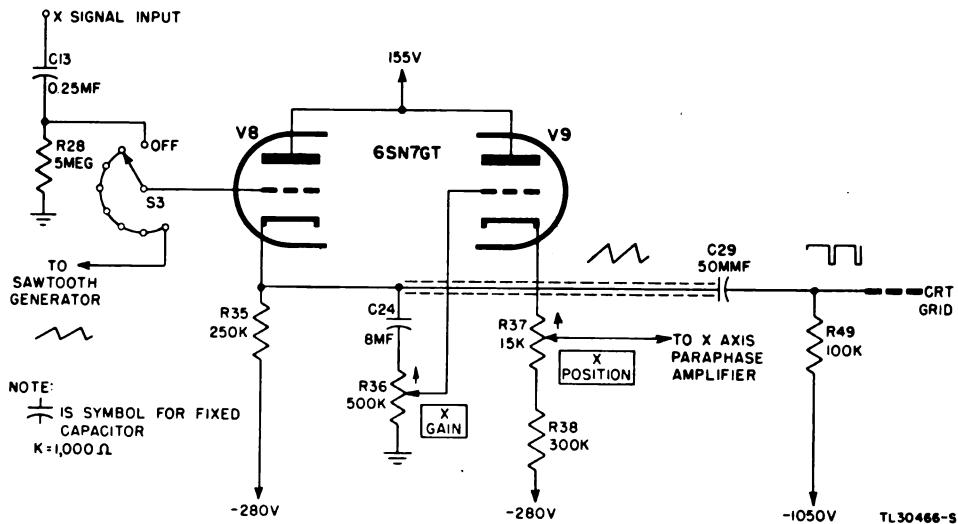

Figure 19. X-axis amplifier, simplified schematic diagram.
32. X-AXIS AMPLIFIER (fig. 19).